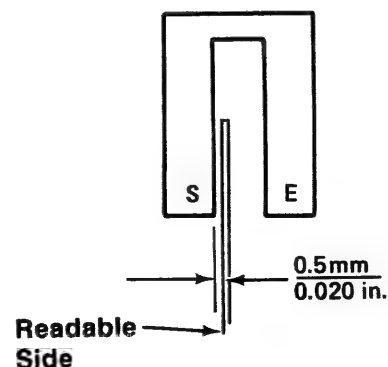

Figure 3-10.2B
4. Position the Reverse Motor Speed Sensor so that the Encoder Disc is about 0.5 mm (0.020 in.) from the "S" side of the sensor and about halfway from the bottom of the U-Slot. See Figure 3-10.2B.